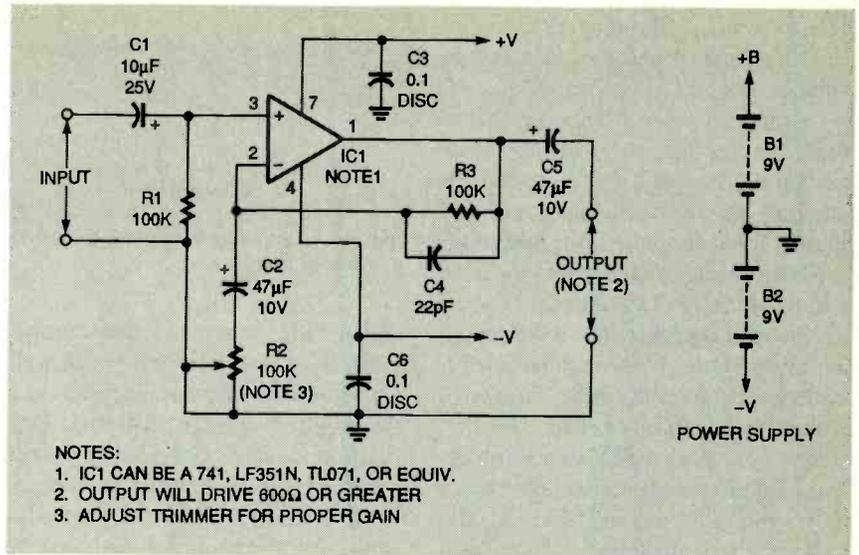

FIG. 6—Signal boost circuit based on an operational amplifier.
**Table 3. Gain Vs. Resistance for the Gain Circuit in Fig. 6 (Resistance in ohms)**
On the other hand, if you want to boost the input level, gain is needed. This is not as easy to do because a gain circuit is required. Figure 6 is a schematic diagram for a suitable gain circuit based on a low-cost, general purpose operational amplifier. It can be an industry-standard 741, a National Semiconductor LF351 or a Texas Instruments TL071, for example. Table 3 lists the values of gain obtainable with different settings on potentiometer R2's wiper.